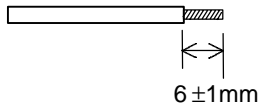

Figure 2-3-5 End treatment
1. Wires connected to control circuit terminals must be 0.5mm^2 shielded wire or twisted vinyl wire. Remove the sheath as shown in Figure 2-3-5 and then connect it.